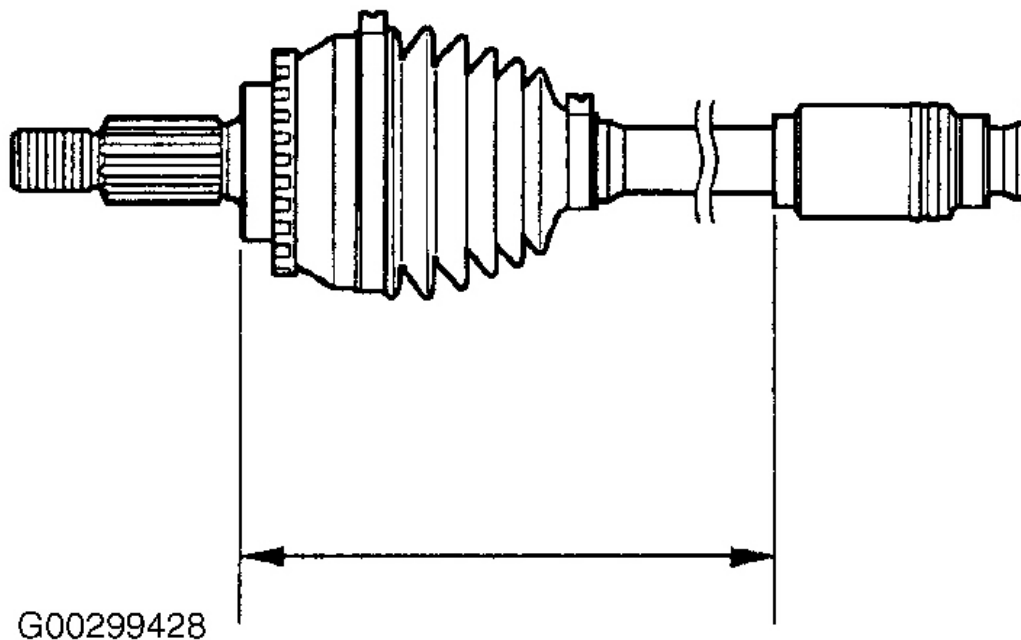

Fig. 8: Measuring Front Axle Shaft Damper Distance
13. Position dynamic damper on outboard end of left axle shaft. Dynamic damper should be positioned at distance of 6.14-6.30 in. (155.9-159.9 mm). Tighten dynamic damper clamps. See **Fig. 8**.